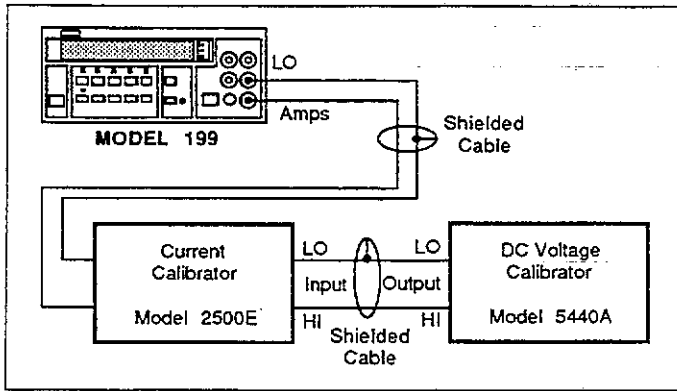

Figure 4-5. Connections for DC Current Verification
2. Connect the DC current calibration source to the Model 199 as shown in Figure 4-5.